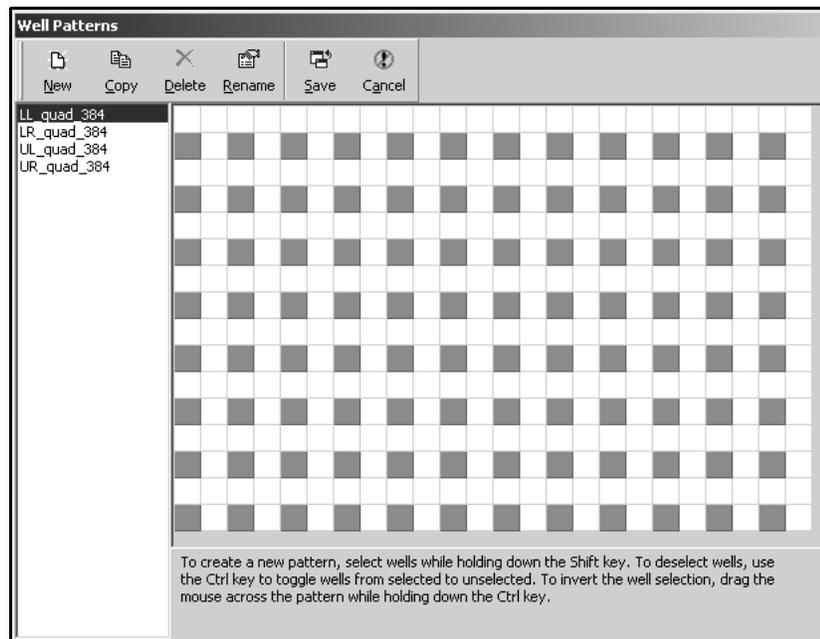

Figure 3-6. Well Patterns
1. From the Project menu, choose **Well Pattern Editor**. Well Patterns appears (Figure 3-6).